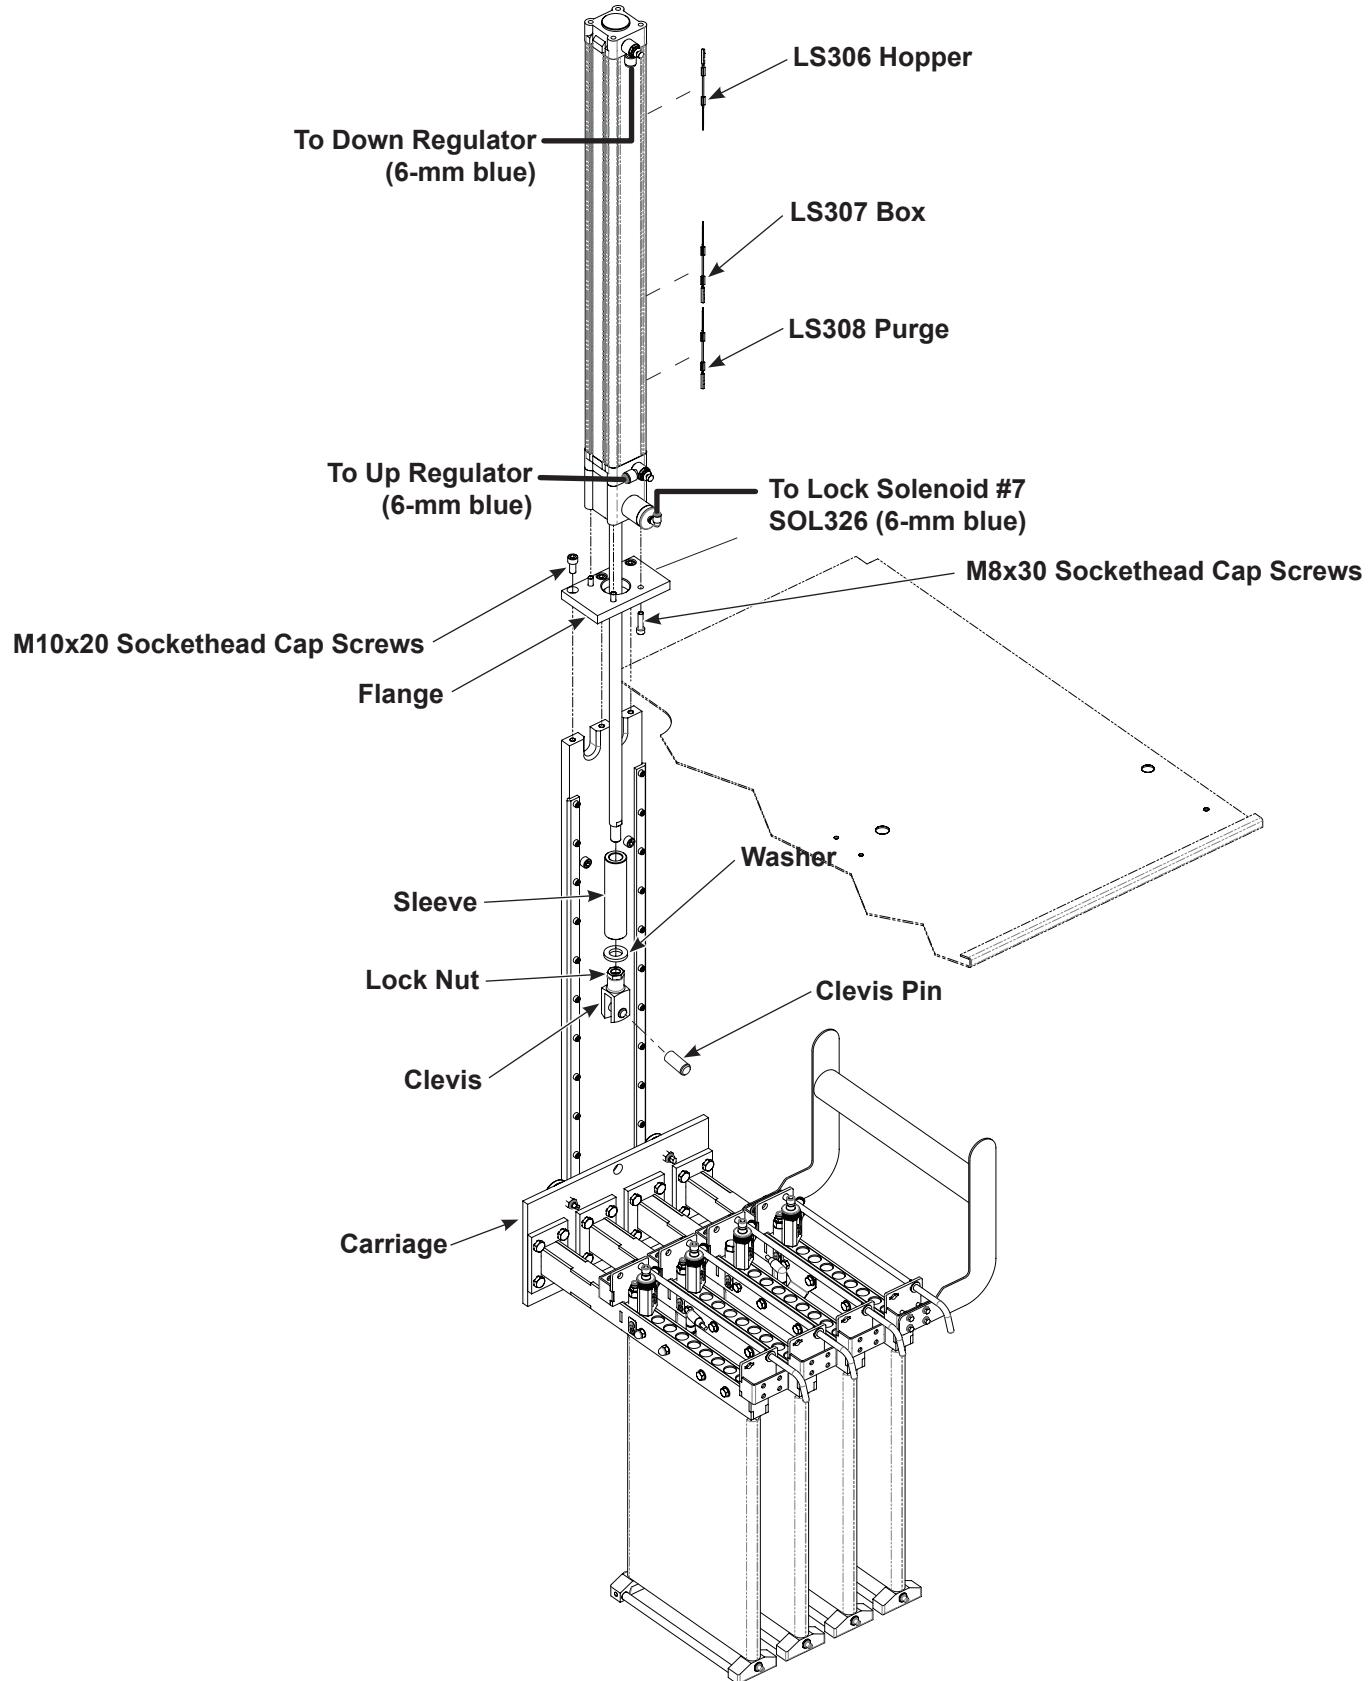

Figure 8-8 Lift Cylinder Replacement
5. See Figure 8-8. Disconnect the air tubing from the Up and Down flow control valves and the cylinder lock at the top and bottom of the cylinder.
2. See Figure 8-8. Thread the locknut on the new cylinder rod, then thread the clevis all the way onto the new cylinder rod and lock it in place with the locknut.